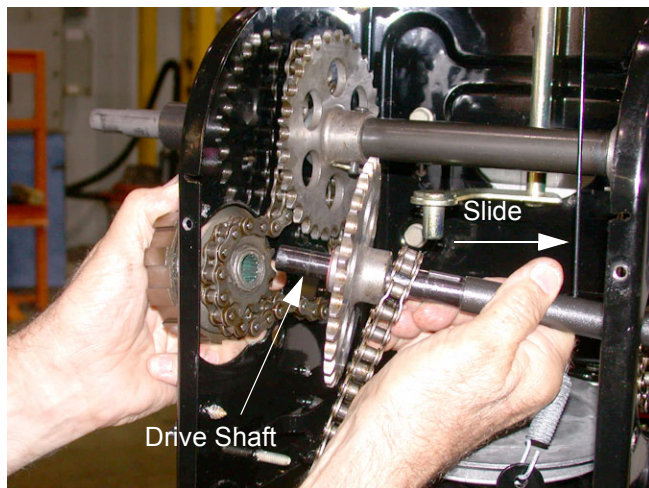

Figure 30
- 12.4. Slide the drive shaft to the right while holding the left planetary gear cluster in place. See Figure 30.